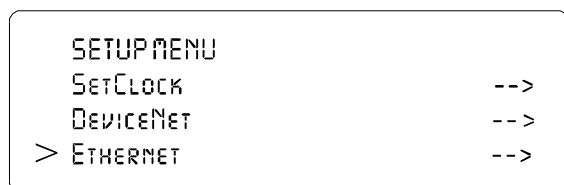

FIG. 29: SETUP MENU/ETHERNET SUB-MENU
- Step 5. Press the up arrow until the cursor appears in front of Ethernet. (See Fig. 29)